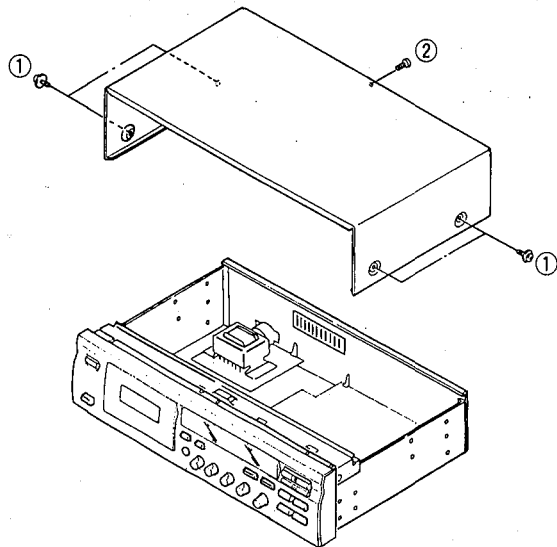

Fig. 1
Remove 4 screws (①) and 1 screw (②) in Fig. 1.